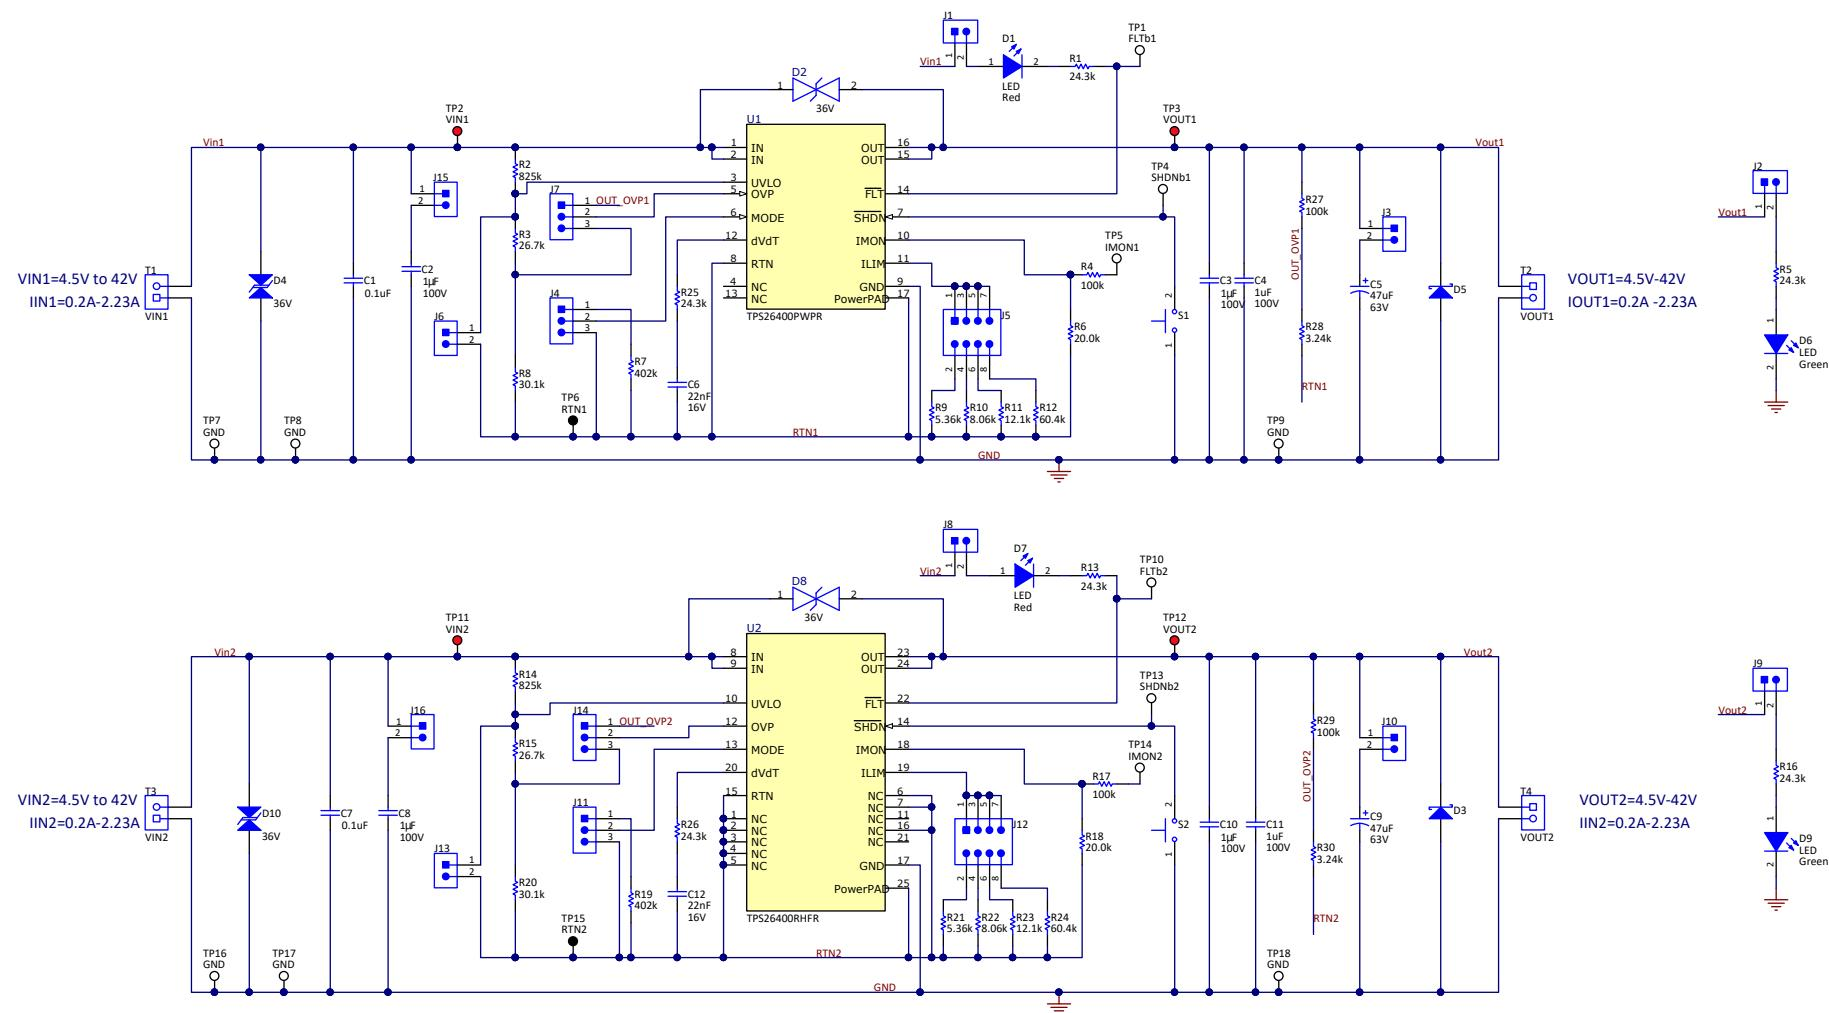
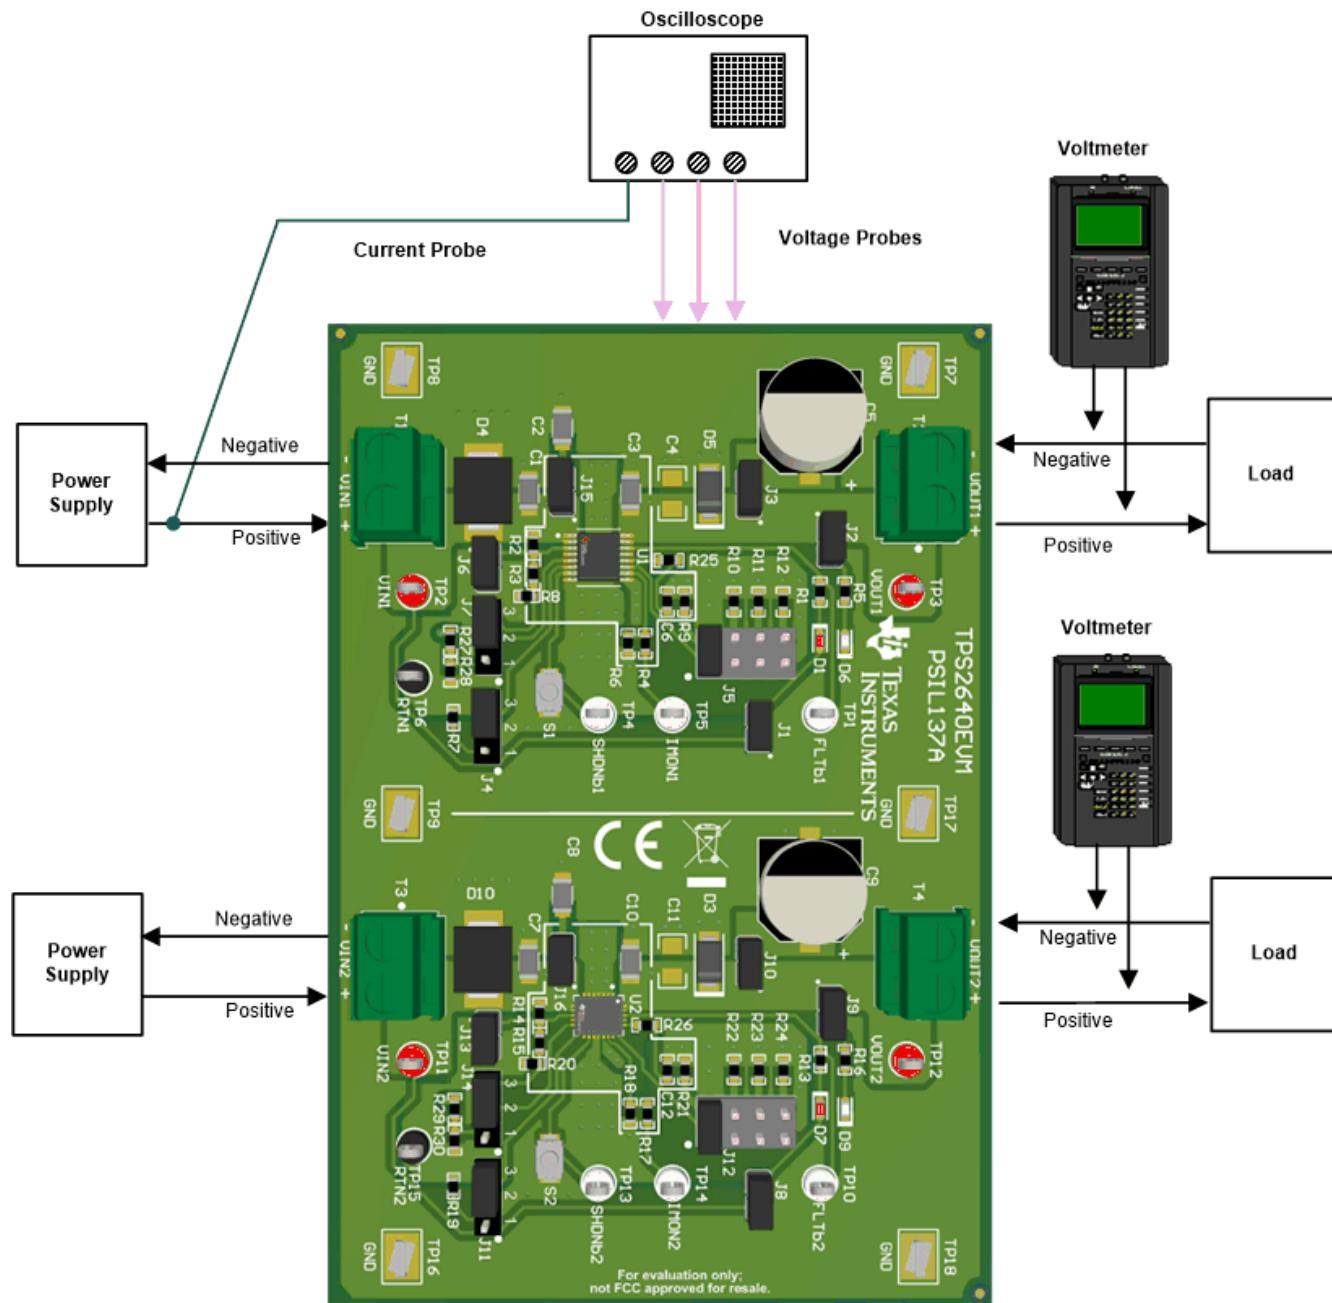

Figure 3-1. TPS2640EVM Schematic
Figure 4-1. EVM Test Setup
The TPS2640EVM enables full evaluation of the TPS2640 devices. The EVM supports HTSOP and QFN versions of the devices on two channels (CH1 and CH2, respectively). Input power is applied at T1 (CH1) and T3 (CH2) while T2 (CH1) and T4 (CH2) provide an output connection to the load. See the schematic in Figure 3-1 and the test setup in Figure 4-1.
Figure 3-1 illustrates the EVM schematic.
Figure 4-1 shows the typical test setup for the TPS2640EVM. Connect T1/T3 to the power supply and T2/T4 to the load.
- Disable the power supply, load and hook up the TPS2640EVM assembly as shown in Figure 4-1.